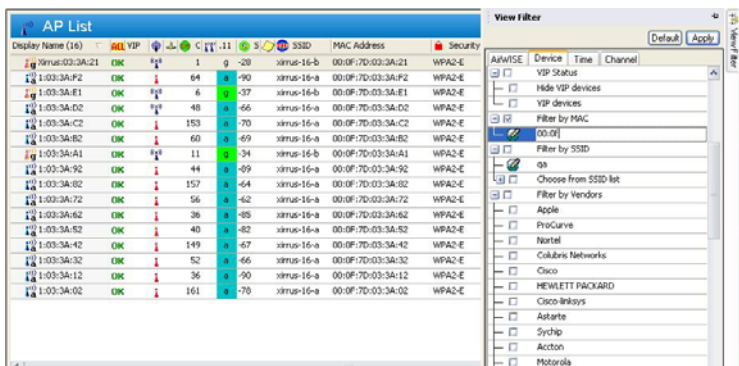

Figure 4-15: Filter by MAC
- 3) Under Filter by MAC, double click to enter MAC. You can enter a partial MAC address e.g. 00:0f and it is not case sensitive. See Figure 4-15 for reference.
- 1) From the Connect Server dialog box (Figure 4-15), highlight the Server.